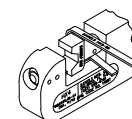

FIG. 3
2. Activate the tool until the movable die extends, but the tool does not cycle fully. Slide the die removal tool between the die and tool body. (See Figure 3) Press the emergency release button to retract the tool pushrod. The die will be released and can be removed by hand.